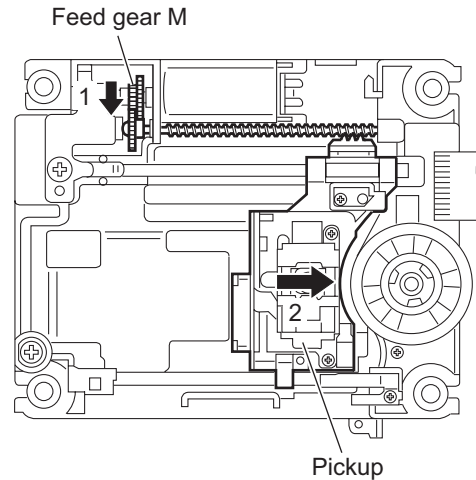

Fig.10
- (5) Turn the feed gear M in the direction of the arrow 1 to move the pickup in the direction of the arrow 2. (See Fig.10.)